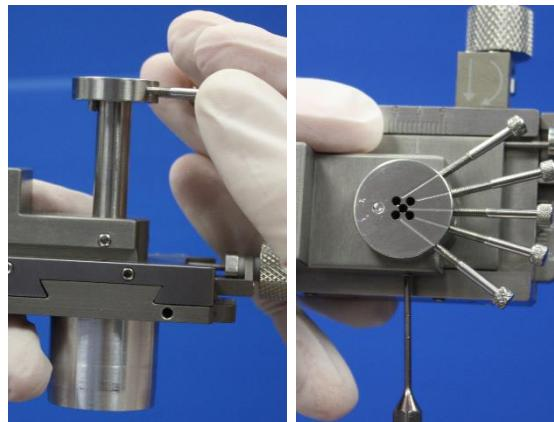

Figure 42: Attaching the Bengun to the Frame Adaptor (X position)
11. Attach the Bengun to the frame adaptor (*Figure 42*), in the configuration matching that of the electrode holder, either X or +.